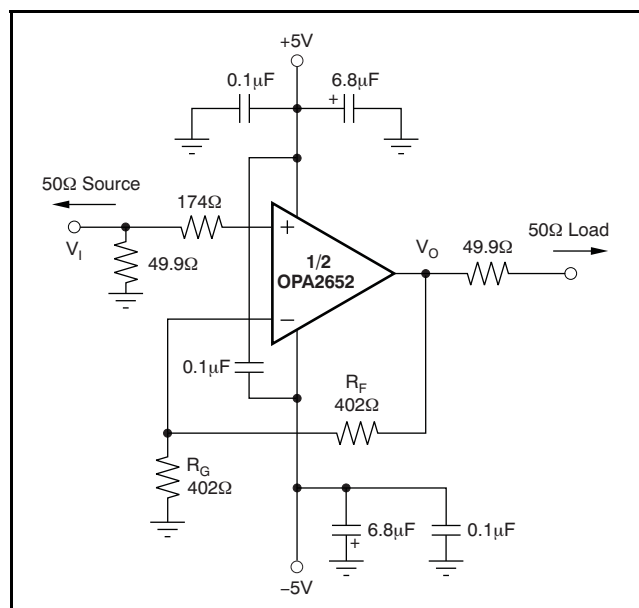
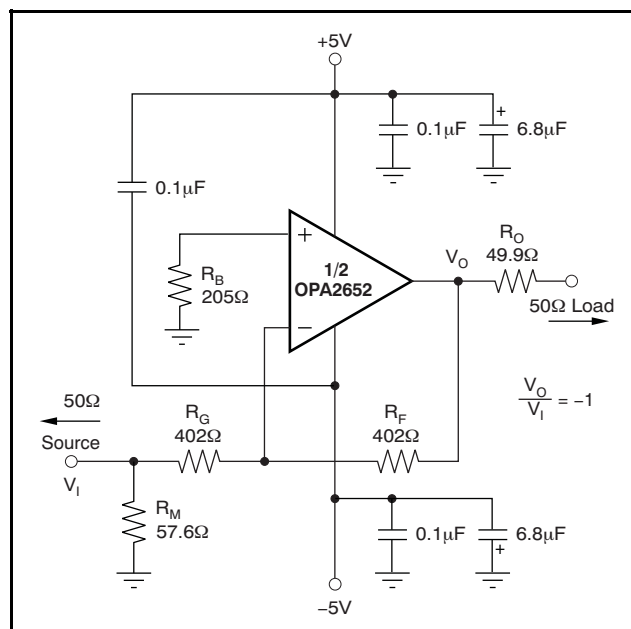

Figure 28. DC-Coupled,  $G = +2$ , Bipolar Supply, Specification and Test Circuit
Figure 29. DC-Coupled,  $G = -1$ , Bipolar Supply, Specification and Test Circuit
At  $T_A = +25^\circ C$ ,  $G = +2$ ,  $R_F = 402\Omega$ , and  $R_L = 100\Omega$ , unless otherwise noted. See Figure 28 and Figure 29 for AC performance only.
At  $T_A = +25^\circ C$ ,  $G = +2$ ,  $R_F = 402\Omega$ , and  $R_L = 100\Omega$ , unless otherwise noted. See Figure 28 and Figure 29.
Figure 28 shows the DC-coupled, gain of +2, dual power-supply circuit configuration used as the basis of the  $\pm 5\text{V}$  specifications and typical characteristics. This configuration is for one channel. The other channel is connected similarly. For test purposes, the input impedance is set to  $50\Omega$  with a resistor to ground and the output impedance is set to  $50\Omega$  with a series output resistor.
Voltage swings reported in the specifications are taken directly at the input and output pins, while output powers (dBm) are at the matched  $50\Omega$  load. For the circuit of Figure 28, the total effective load will be  $100\Omega \parallel 804\Omega$ . Two optional components are included in Figure 28.
Figure 29 shows the DC-coupled, gain of  $-1$ , bipolar supply circuit configuration that is the basis of the specifications and typical characteristics at  $G = -1$ . The input impedance matching resistor ( $57.6\Omega$ ) used for testing gives a  $50\Omega$  input load. A resistor ( $205\Omega$ ) connects the noninverting input to ground. This configuration provides the DC source resistance matching to cancel outputs errors arising from input bias current.
A good rule of thumb is to target the parallel combination of  $R_F$  and  $R_G$  (see Figure 28) to be less than approximately 300Ω. The combined impedance  $R_F \parallel R_G$  interacts with the inverting input capacitance, placing an additional pole in the feedback network, and thus a zero in the forward response. Assuming a 2pF total parasitic on the inverting node, holding  $R_F \parallel R_G < 300\Omega$  keeps this pole above 250MHz. By itself, this constraint implies that the feedback resistor  $R_F$  can increase to several kΩ at high gains. This increase is acceptable as long as the pole formed by  $R_F$  and any parasitic capacitance appearing in parallel is kept out of the frequency range of interest.
Voltage feedback op amps exhibit decreasing closed-loop bandwidth as the signal gain is increased. In theory, this relationship is described by the Gain Bandwidth Product (GBP) shown in the specifications. Ideally, dividing GBP by the noninverting signal gain (also called the Noise Gain, or NG) predicts the closed-loop bandwidth. In practice, this prediction only holds true when the phase margin approaches 90°, as it does in high gain configurations. At low gains (increased feedback factor), most amplifiers exhibit a wider bandwidth and lower phase margin. The OPA2652 is compensated to give a flat response in a noninverting gain of 1 (see Figure 28). This configuration results in a typical gain of +1 bandwidth of 700MHz, far exceeding that predicted by dividing the 200MHz GBP by  $NG = 1$ . Increasing the gain
Because the OPA2652 is a general-purpose, wideband voltage feedback op amp, all of the familiar op amp application circuits are available to the designer. Inverting operation is one of the more common requirements and offers several performance benefits. Figure 29 shows a typical inverting configuration.
In the inverting configuration, three key design consideration must be noted. First, the gain resistor ( $R_G$ ) becomes part of the signal channel input impedance. If input impedance matching is desired (which is beneficial whenever the signal is coupled through a cable, twisted pair, long PCB trace or other transmission line conductor),  $R_G$  may be set equal to the required termination value and  $R_F$  adjusted to give the desired gain. This approach is the simplest, and results in optimum bandwidth and noise performance. However, at low inverting gains, the resulting feedback resistor value can present a significant load to the amplifier output. For an inverting gain of  $-1$ , setting  $R_G$  to 50Ω for input matching eliminates the need for  $R_M$  but requires a 50Ω feedback resistor. This configuration has the interesting advantage that the noise gain becomes equal to 2 for a 50Ω source impedance—the same as the noninverting circuits considered above. However, the amplifier output now sees the 50Ω feedback resistor in parallel with the external load. In general, the feedback resistor should be limited to the 200Ω to 1.5kΩ range. In this case, it is preferable to increase both the  $R_F$  and  $R_G$  values as shown in Figure 29, and then achieve the input matching impedance with a third resistor ( $R_M$ ) to ground. The total input impedance becomes the parallel combination of  $R_G$  and  $R_M$ .
The second major consideration, touched on in the previous paragraph, is that the signal source impedance becomes part of the noise gain equation and influences the bandwidth. For the example in Figure 29, the  $R_M$  value combines in parallel with the external 50Ω source impedance, yielding an effective driving impedance of  $50\Omega \parallel 57.6\Omega = 26.8\Omega$ . This impedance is added in series with  $R_G$  for calculating the noise gain (NG). The resulting NG is 1.94 for Figure 29 (an ideal source would cause  $NG = 2.00$ ).
error, as a result of the input bias currents, is reduced to (Input Offset Current) •  $R_F$ . If the  $50\Omega$  source impedance is DC-coupled in Figure 29, the total resistance to ground on the inverting input will be  $429\Omega$ . Combining this in parallel with the feedback resistor gives  $208\Omega$ , which is close to the  $R_B = 205\Omega$  used in Figure 29. To reduce the additional high-frequency noise introduced by this resistor, it is sometimes bypassed with a capacitor. As long as  $R_B < 300\Omega$ , the capacitor is not required since its total noise contribution is much less than that of the op amp input noise voltage.
The OPA2652 provides good distortion performance into a  $100\Omega$  load on  $\pm 5V$  supplies. Increasing the load impedance improves distortion directly. Remember that the total load includes the feedback network; in the noninverting configuration (Figure 28), this is sum of  $R_F + R_G$ , while in the inverting configuration, it is only  $R_F$ . Also, providing an additional supply decoupling capacitor ( $0.1\mu F$ ) between the supply pins (for bipolar operation) improves the 2nd-order distortion slightly (3dB to 6dB).
Evaluating these two equations for the OPA2652 circuit and component values shown in Figure 28 gives a total output spot noise voltage of  $17\text{nV}/\sqrt{\text{Hz}}$  and a total equivalent input spot noise voltage of  $8.4\text{nV}/\sqrt{\text{Hz}}$ . This noise includes the noise added by the bias current cancellation resistor ( $205\Omega$ ) on the noninverting input. This total input-referred spot noise voltage is only slightly higher than the  $8\text{nV}/\sqrt{\text{Hz}}$  specification for the op amp voltage noise alone. This result will be the case as long as the impedances appearing at each op amp input are limited to the previously recommend maximum value of  $300\Omega$ . Keeping both  $(R_F \parallel R_G)$  and the noninverting input source impedance less than  $300\Omega$  satisfies both noise and frequency response flatness considerations. Since the resistor-induced noise is relatively negligible, additional capacitive decoupling across the bias current cancellation resistor ( $R_B$ ) for the inverting op amp configuration of Figure 29 is not required.
The balanced input stage of a wideband voltage feedback op amp allows good output DC accuracy in a wide variety of applications. Although the high-speed input stage does require relatively high input bias current (typically  $4\mu\text{A}$  out of each input terminal), the close matching between them may be used to significantly reduce the output DC error caused by this current. This reduction is done by matching the DC source resistances appearing at the two inputs. This matching reduces the output DC error resulting from the input bias currents to the offset current times the feedback resistor. Evaluating the configuration of Figure 28, using worst-case  $+25^\circ\text{C}$  input offset voltage and current specifications, gives a worst-case output offset voltage equal to:
As an example, compute the maximum  $T_J$  using an OPA2652E (SOT23-8 package) in the circuit of Figure 28 operating at the maximum specified ambient temperature of +85°C and with both outputs driving 2.5VDC into a grounded 100Ω load.